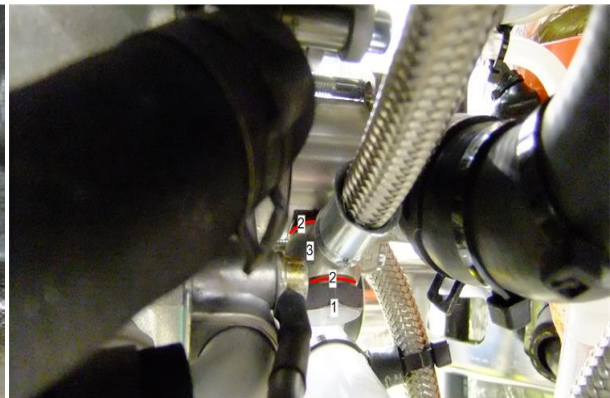

Fig. 10 – Heater return hose on water pump: 1-hollow screw 2-
- 12 Install heater return hose with 1/4" hollow screw and two 13/18" copper seal rings to the heater connection point in 5 o'clock position of the adapter from the previous step. Use AG-BAS-03 (Fig. 10).